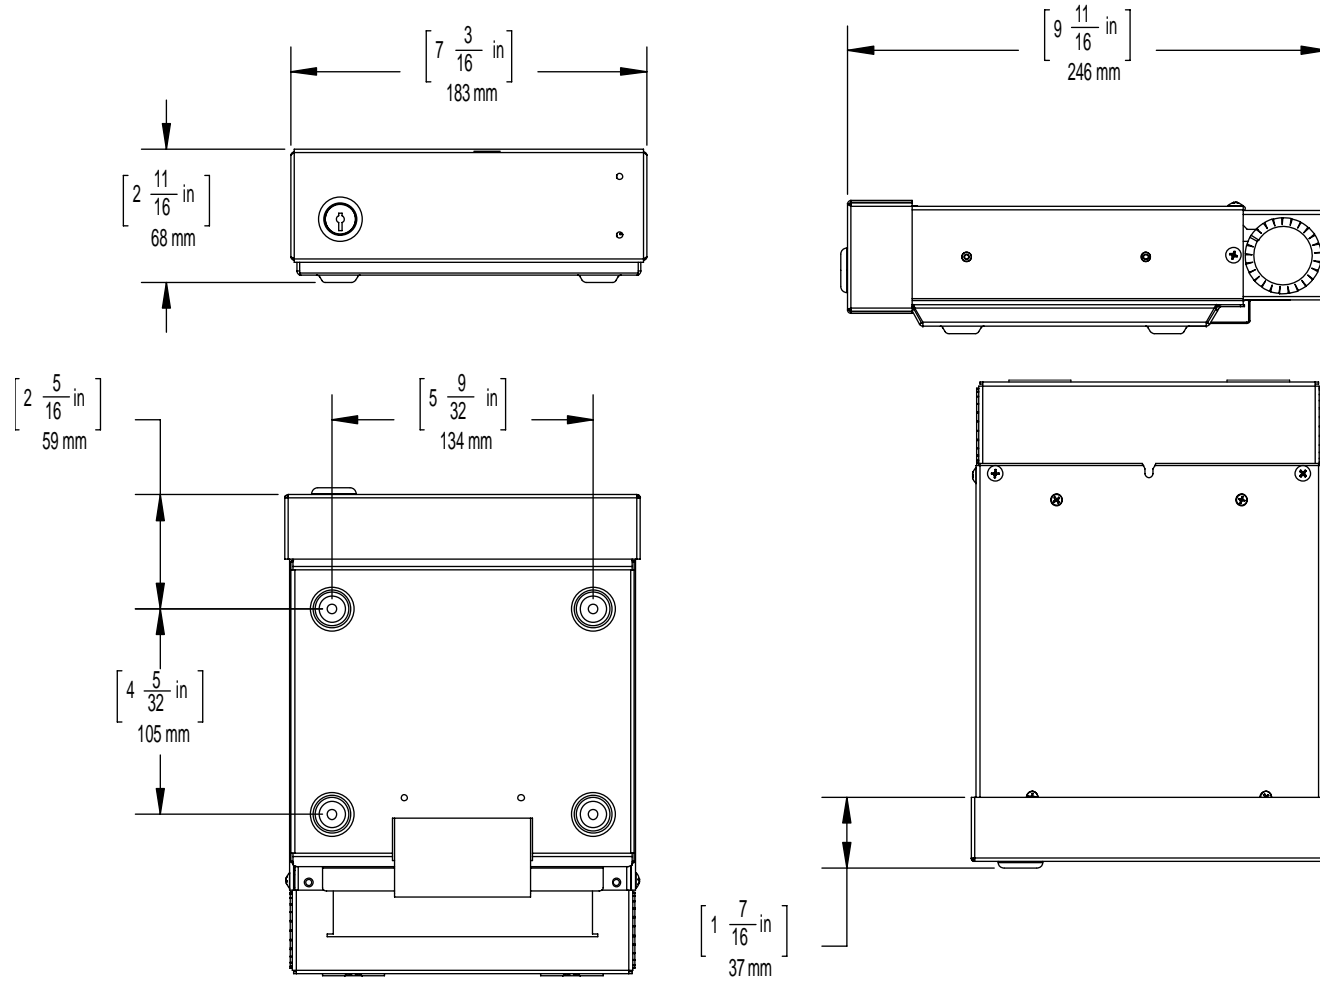

Figure 6 MX4 Dimensions
- 1 Select an appropriate mounting location and orientation, horizontal or vertical. For the dimensions and location of the mounting holes, see Figure 6 “MX4 Dimensions” on page 11.